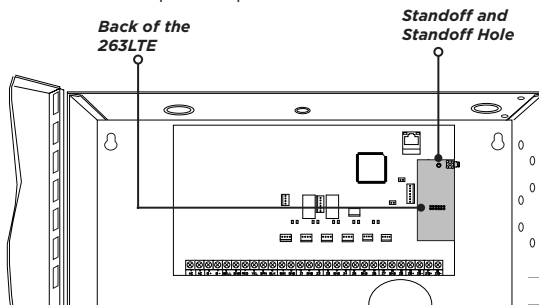

Figure 3: 263LTE on an XR150/XR550 and XF6 Series Panel
3. Secure the 263LTE on the 12-pin cell module connector. See Figure 3.